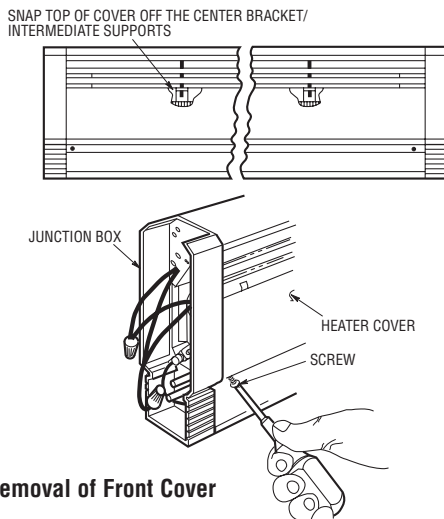

Figure 4. Removal of Front Cover
4. Remove the front cover of the heater by removing the screws in the lower corners. Pull the bottom of the cover outward and lift the top of the cover off the junction box. Repeat for the opposite end. Snap the top of the cover off the center bracket and off the intermediate supports. See Figure 4.